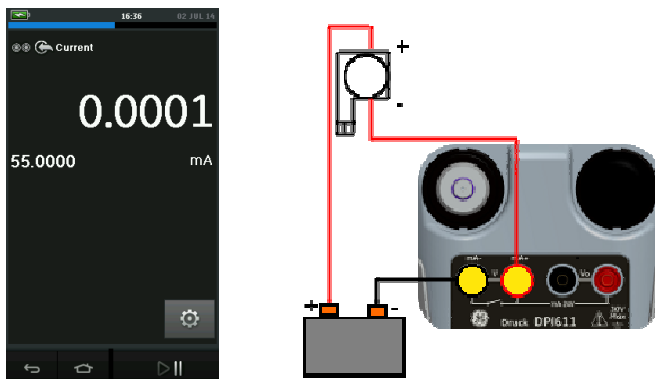
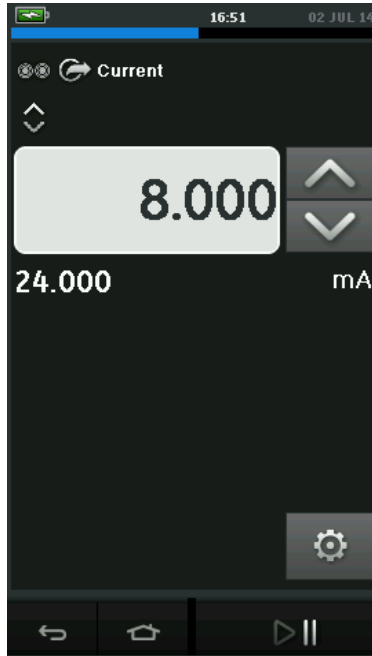

Figure 2-20 Measure current with external loop power (Range: $\pm 55\text{mA}$)
Figure 2-21 Source current with external loop power. (Range: 0 to 24 mA)
- *Figure 2-20* and *Figure 2-21* show how to set-up to measure ($\pm 55\text{mA}$) or source (0 to 24mA) a current with external loop power.